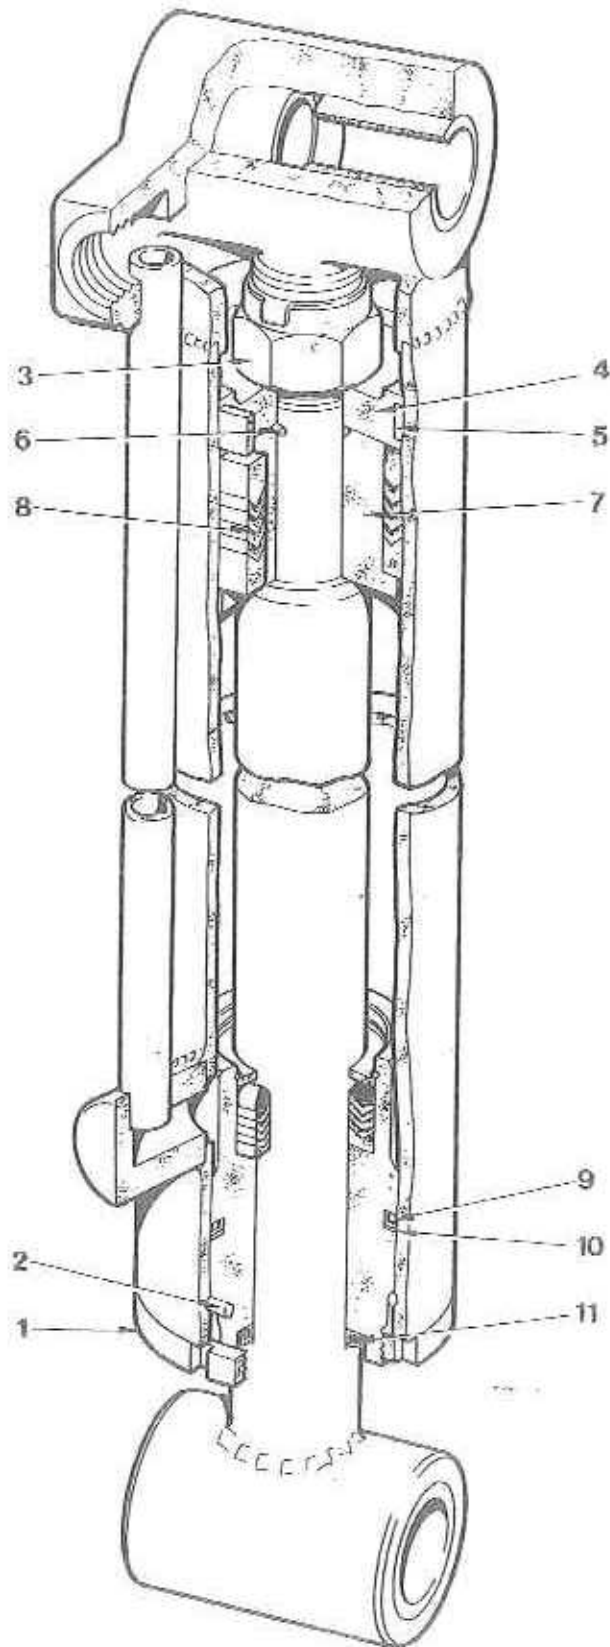

FIG 18
3. (Fig. 18) With a 'C' Spanner turn the bearing nut (1) in an anti-clockwise direction, remove it from the bearing and rest it on the piston rod.
4. Tap the bearing approximately 1½" (38,1 mm) into the barrel to allow the removal of the lock ring. (2).
7. Clamp the piston rod assembly securely in a vice, remove the nut (3) piston (4) complete with wear ring (5) 'O' ring (6), packing retainer (7) complete with packing (8).
9. Remove the 'O' ring (9), back up washer (10), wiper seal (11), snap ring (12), washer (13) and packing (14) from the body (15).
2. (Fig. 18) Slide the bearing nut (1) and lock ring (2) onto the piston rod.
3. Fit new packing (14), washer (13), snap ring (12), new wiper seal (11), new back up washer (10) and new 'O' ring to the body (15).
5. Fit new packing (8) onto packing retainer (7) and slide up to the shoulder on the piston rod. Fit new 'O' ring (6).
6. Fit new wear ring (5) onto the piston (4), slide it onto the rod and secure with nut (3). Torque to 300 - 330 lb.ft. (41.49 - 45.6 kg.m.).